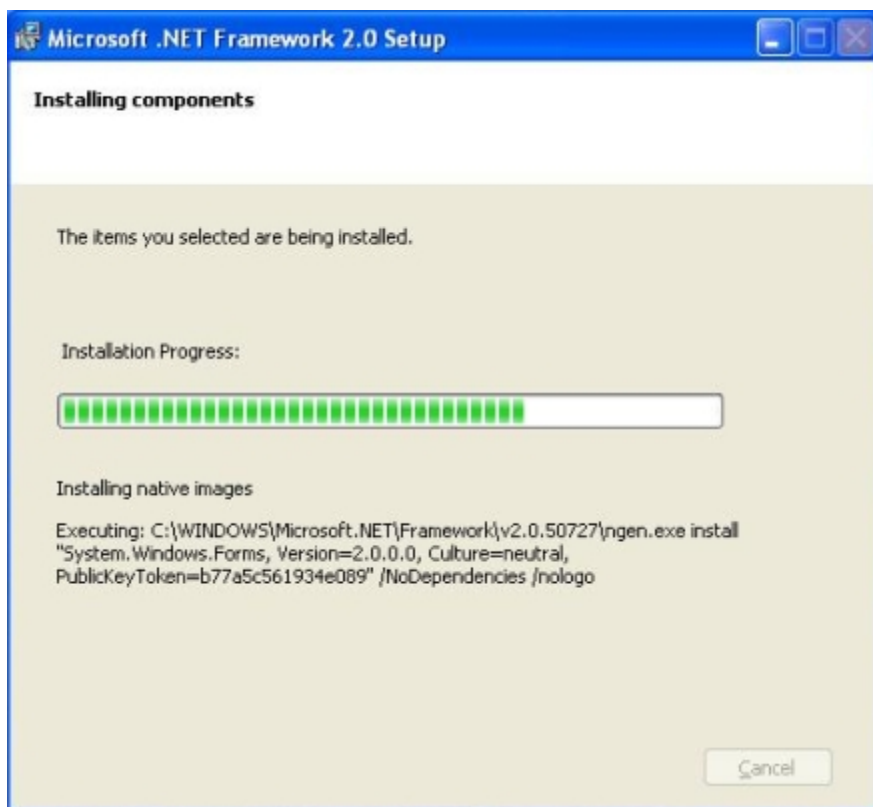

Figure F. 5 - .NET Framework 2.0 Installation Progress Dialog
5. A progress dialog, Figure F. 5, will be displayed as .NET Framework 2.0 is installed.